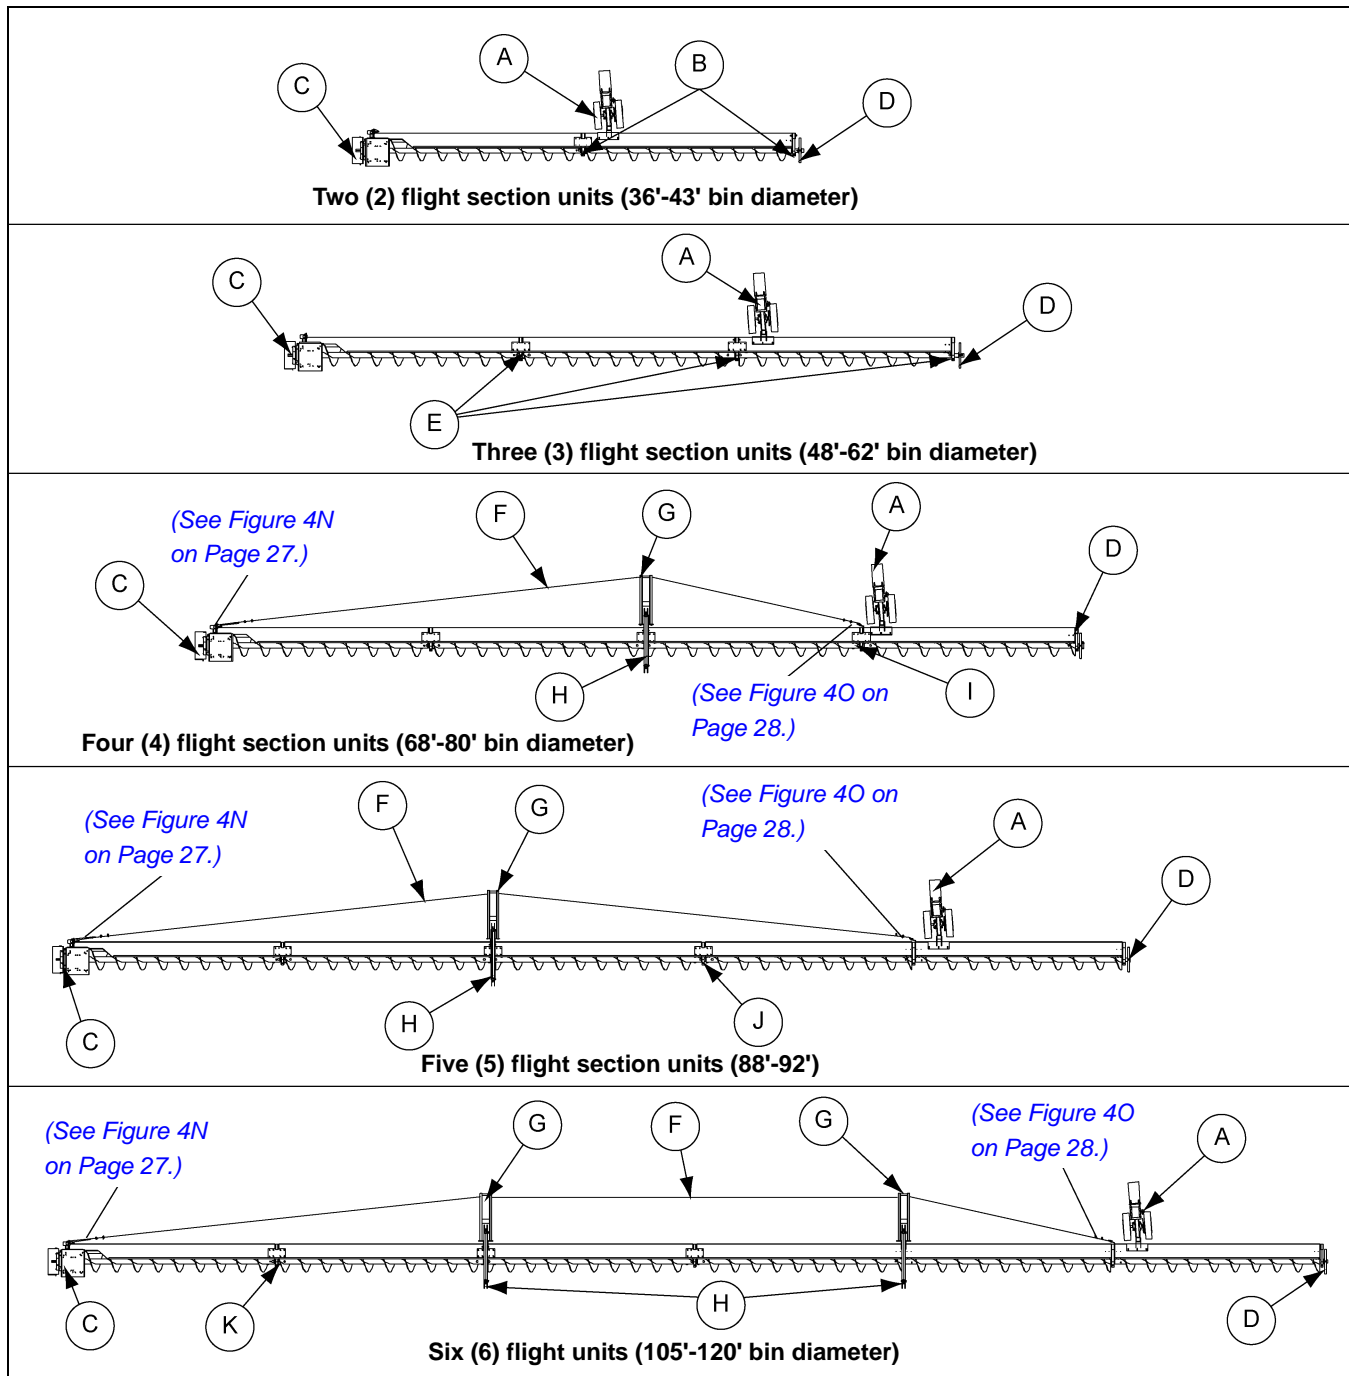
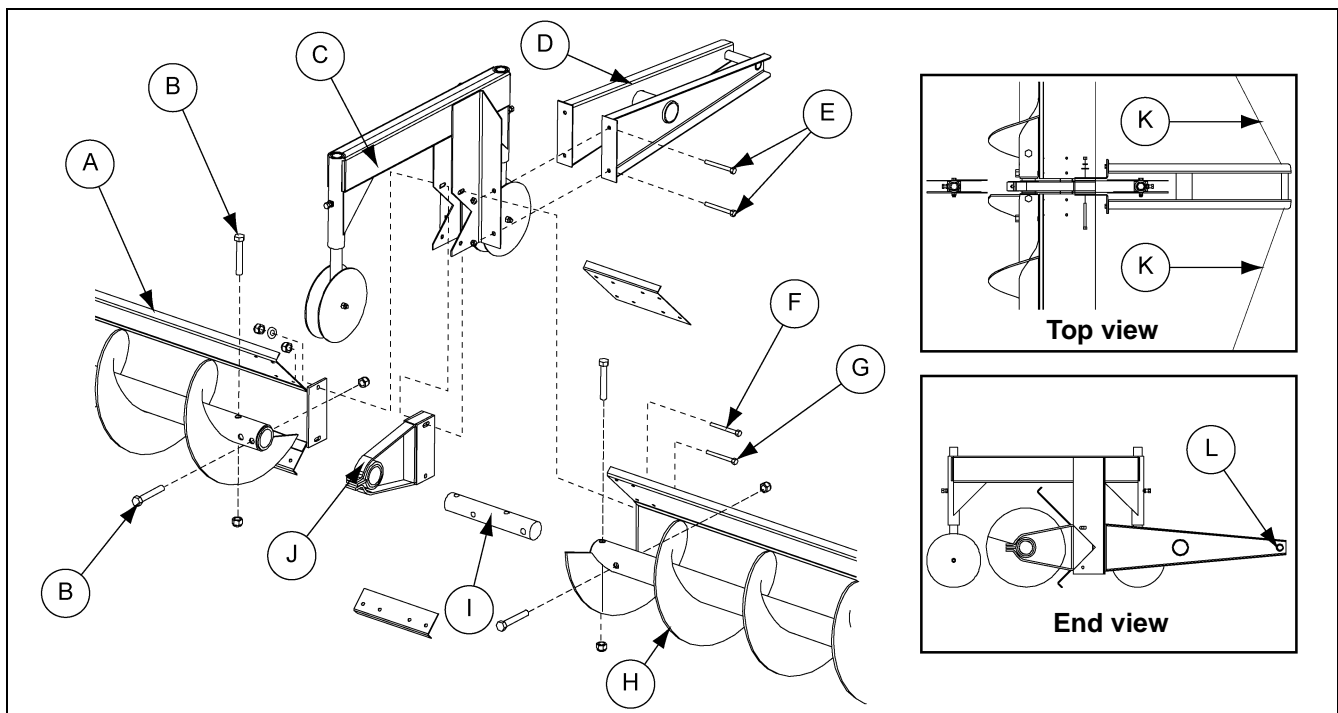

Figure 4F Sweep Flight Back Shield Layouts
Figure 4M Sweep Carrier Wheel and Truss Stand Detail
(NOTE: Units that use four (4) or more sections of flight include a sweep carrier assembly that is used in conjunction with a truss stand. (See Figure 4F on Page 19 for locations.) A cable truss is also provided for the sweep back shields on these units. The truss stand will fasten to the sweep carrier assemblies. Fasten the truss stand to the sweep carrier with 3/8" x 1" long hex head cap screws. ([See \[Figure 4M on Page 25.\]\(#\)](#)) Use 3/8" x 3-1/2" hex head cap screws to connect the sweep carrier, sweep back shield and bearing stand together.
(For bins with four (4) or more sections.) (Refer to Figure 4M.)
1. Place sweep carrier wheel assembly (C) over bearing stand (J).
2. Connect carrier wheel (C) and bearing stand (J) to sweep back shields (A) using a 3/8" x 3-1/2" carriage bolt with flat washer, lock washer and lock nut and a 3/8" x 3-1/2" HHCS with lock nut (G).
3. Slide connecting stub (I) through bearing stand (J) and connect to flighting (H) using four (4) 5/8" x 4" HHCS with lock nuts (B).
4. Route the truss cable (H) through the small tube at the end of the truss stand(s). (See Figure 4M on Page 25.)